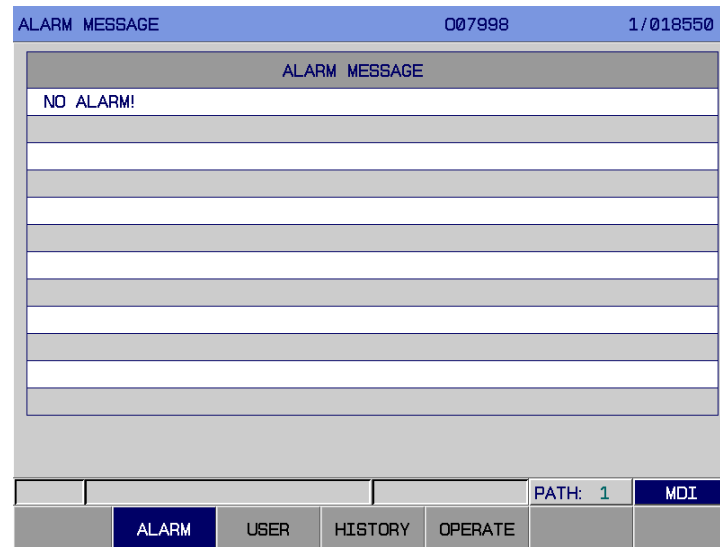
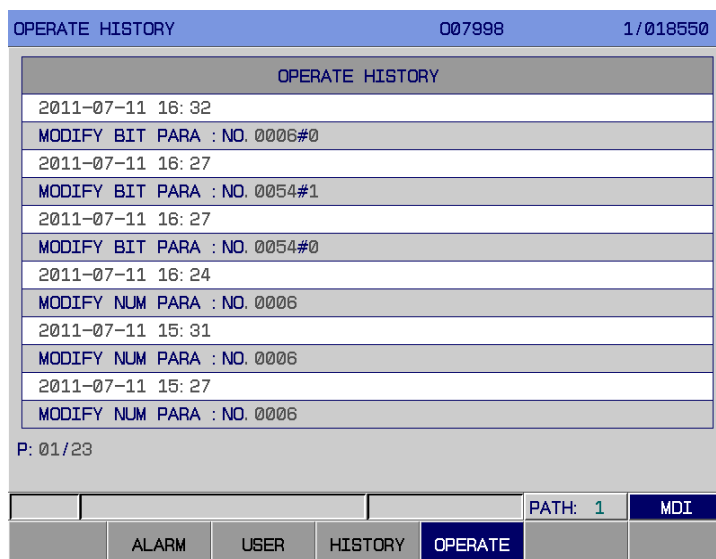

Fig. 3-7-1
Fig. 3-7-4
issues. In this case, the display page appear by. There are four display interfaces in this page: **【ALARM】**, **【USER】**, **【HISTORY】**, **【RECORD】**, which can be checked (Refer to the Fig. 3-7-1~ Fig.3-7-4) by its corresponding softkey. Alternatively, whether shifting to the alarm interface when bit 6 of parameter No.: 24 alarm occurs.
1. Alarm interface Enter the alarm interface by **【ALARM】** softkey in <ALARM> interface, refer to the Fig. 3-7-1:
4. Record interface Enter the external alarm interface by【RECORD】softkey in <ALARM> interface, refer to the Fig. 3-7-4: